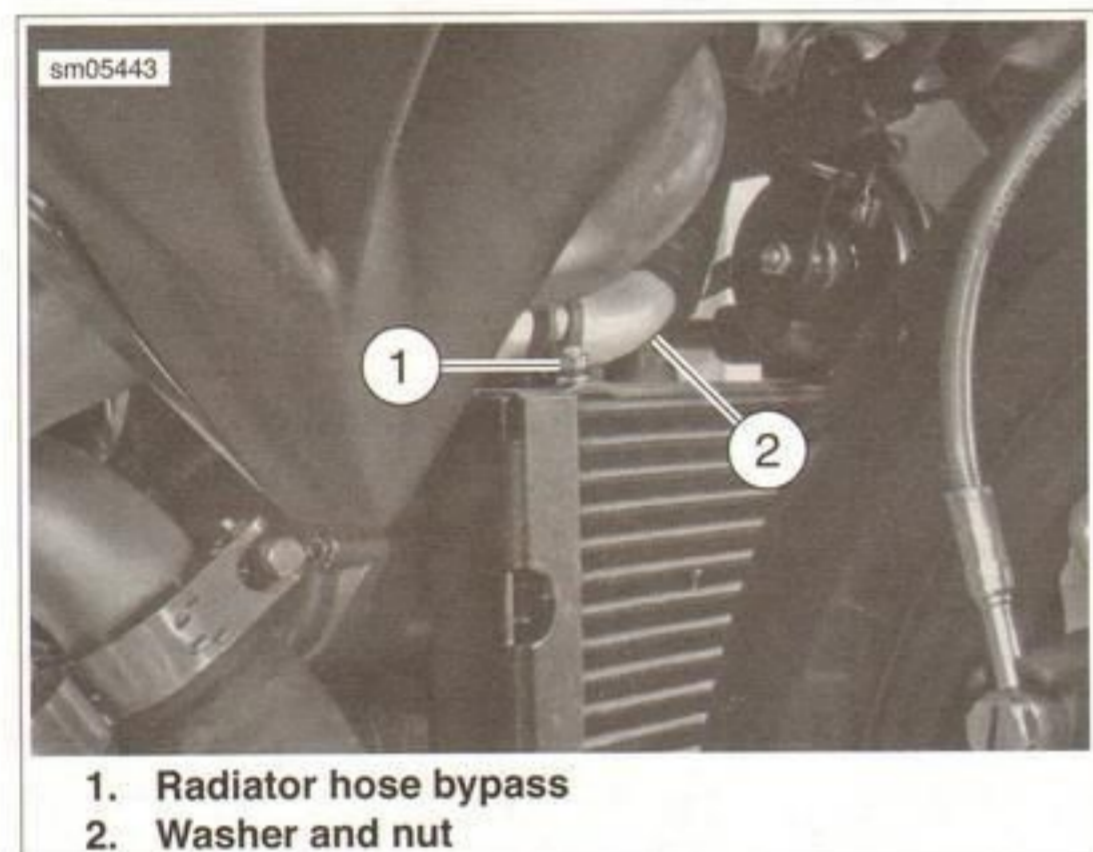

Figure 5-32. Radiator Hose Bypass to Oil Cooler Mounting
3. See Figure 5-32. Install radiator hose bypass (2) to top of oil cooler and retain with washer and nut (1).